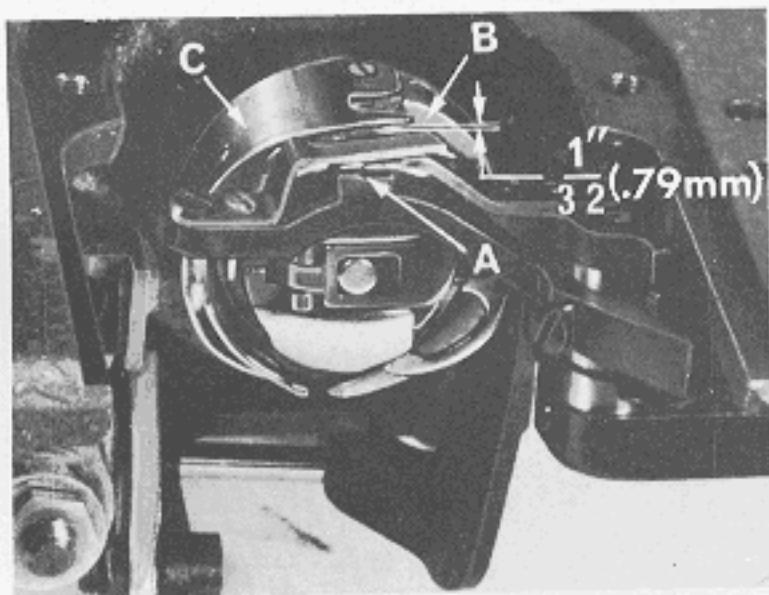

Fig. 12A
3. Assemble positioning finger and knife assembly into machine. Adjust the bobbin case holder positioning finger and knife assembly by turning the bobbin case holder until the finger recess is at the top. Place the projection (A, Fig. 12A) on the positioning finger into the bobbin case holder recess (B) and tighten the finger and knife assembly attaching screws securely, allowing 1/32 inch (.79 mm) clearance between the outside edge of projection and the inside edge of bobbin case recess (Fig. 12A).